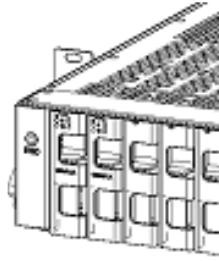

Figure 29 Converter Slot Covers
- Slot covers must be installed used on all empty Converter slots when more than one Converter shelf is being cooled by a Fan Shelf. These covers prevent cooling air from bypassing the Converters. See Figure 29.